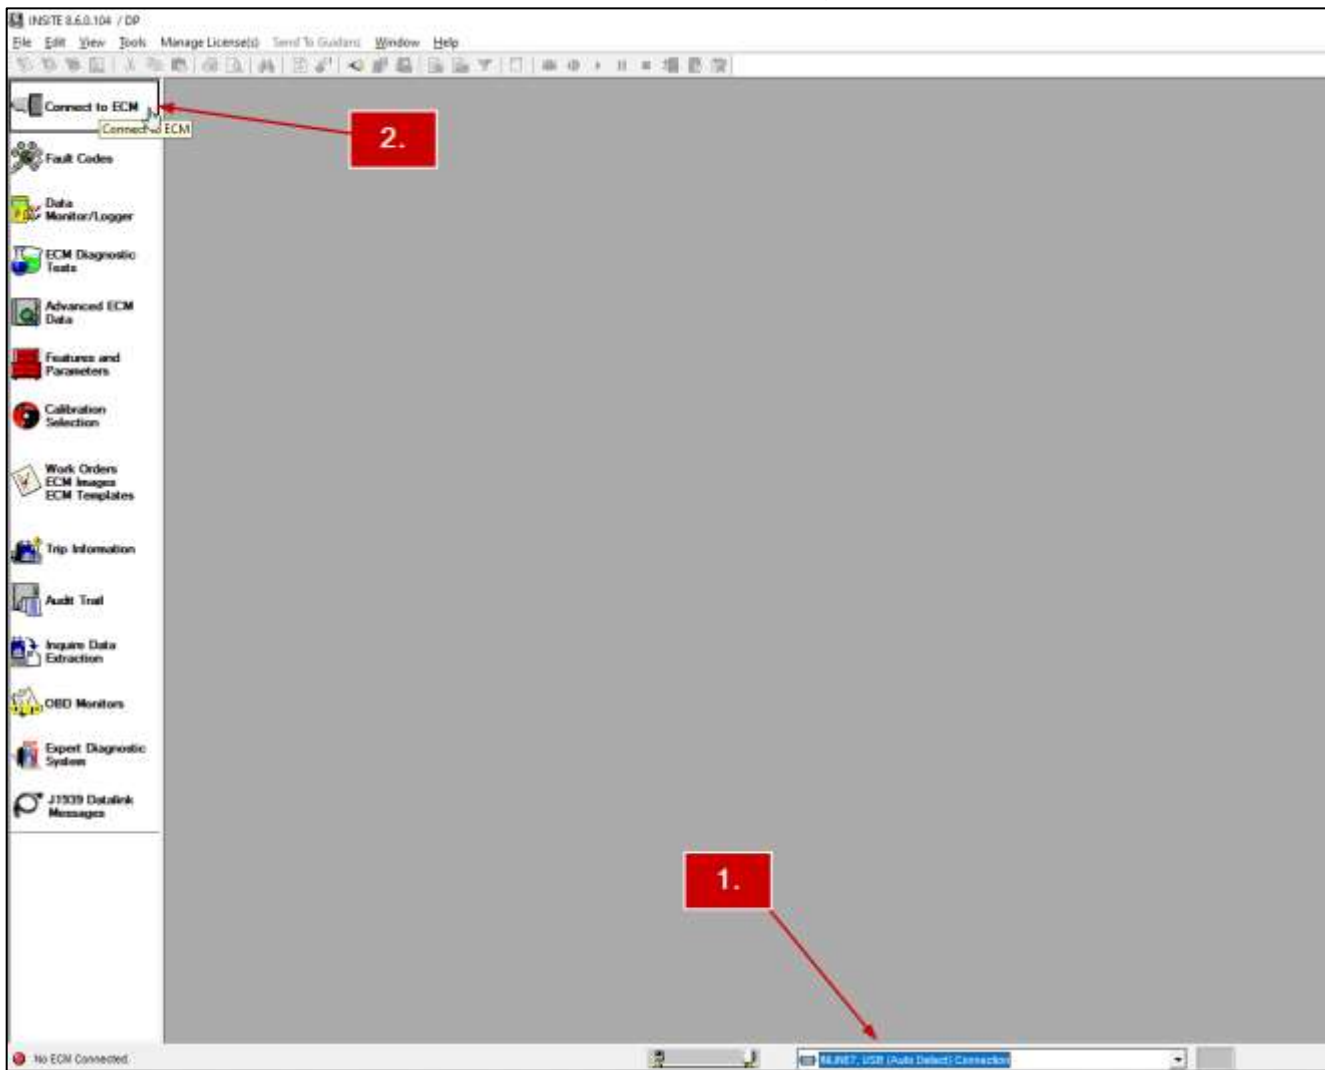

Figure 4.
Step 1: Using either a NEXIQ® USB-Link 2 or Cummins® INLINE7 tool, verify OBD-II connection is correctly selected. *Figure 4.*
Step 2: Click “Connect to ECM” from the left tab menu. *Figure 4*